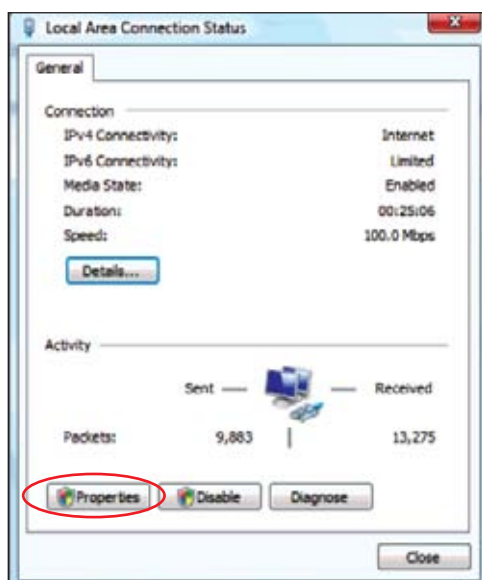

Figure 15-5. *Local Area Connection Status*.
- Your **Local Area Connection Status** window will open. Select **Properties** (Figure 15-5).